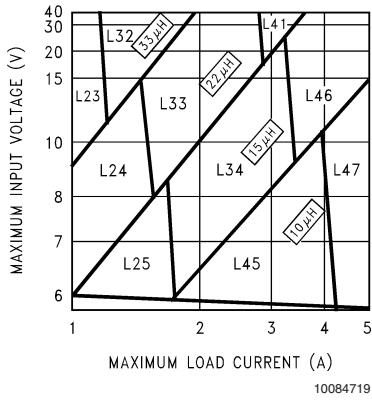
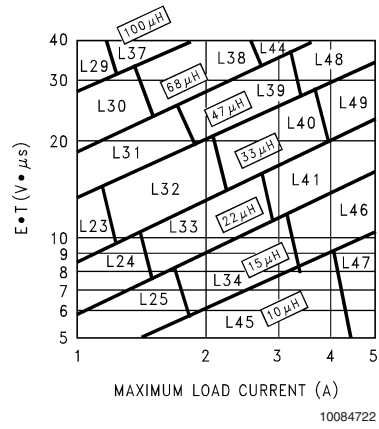

FIGURE 3. LM2679-3.3
FIGURE 6. LM2679-ADJ
Step 3: Determine the inductor required by using one of the four nomographs, *Figure 3* through *Figure 6*. Table 1 provides a specific manufacturer and part number for the inductor.
Step 5: Determine an input capacitor from Table 4 for fixed output voltage applications. Use Table 2 to find the specific capacitor type. For adjustable output circuits select a capacitor from Table 2 with a sufficient working voltage (WV) rating greater than $V_{in\ max}$, and an rms current rating greater than one-half the maximum load current (2 or more capacitors in parallel may be required).
Step 3: Use the nomograph for the 3.3V device, *Figure 3*. The intersection of the 16V horizontal line ($V_{in\ max}$) and the 4A vertical line ($I_{load\ max}$) indicates that L46, a $15\mu\text{H}$ inductor, is required.
Step 3: To use the nomograph for the adjustable device, *Figure 6*, requires a calculation of the inductor Volt•microsecond constant ($E \cdot T$ expressed in $\text{V} \cdot \mu\text{s}$) from the following formula:
Using *Figure 6*, the intersection of $27V \cdot \mu s$ horizontally and the $3.5A$ vertical line (I_{load} max) indicates that L48, a $47\mu H$ inductor, or L49, a $33\mu H$ inductor could be used. Either inductor will be suitable, but for this example selecting the larger inductance will result in lower ripple current.
Important Note: When using the adjustable device in low voltage applications (less than $3V$ output), if the nomograph, *Figure 6*, selects an inductance of $22\mu H$ or less, Table 6 does